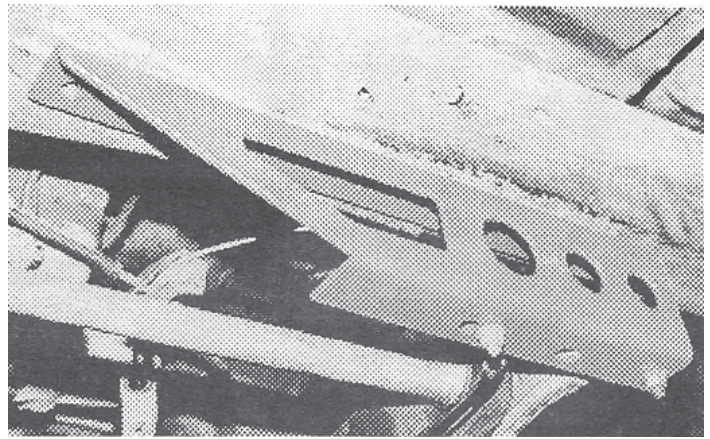

Fig. 48
47. **NOTE:** Fuel lines run inside frame on DVR side. Use caution when performing this step. Dress welds on bottom of frame. Ream OE torsion mount frame holes to 7/16". Install bracket "FD" on DVR side of vehicle using 7/16" x 1-1/4" bolts, washers, and nuts provided. **Fig 48.** Use 1/2" washers to shim space between frame and "FD" if so required. Using front hole in "FD" as guide, drill 5/16" in frame. Install 3/8" x 1" self tapping bolt provided. Repeat using "FP" on PASS side.